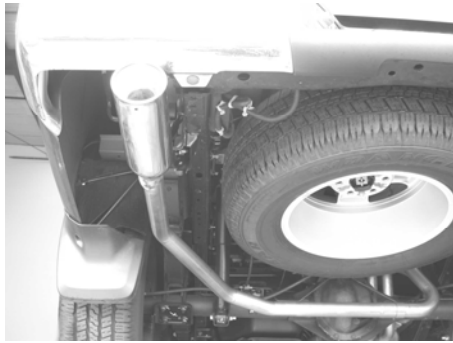

Figure 13
7. Place a clamp over the expanded end of the left tail pipe assembly and set it into position as shown in figure 13 installing the hanger into the rubber bracket. **DO NOT** tighten the clamp.